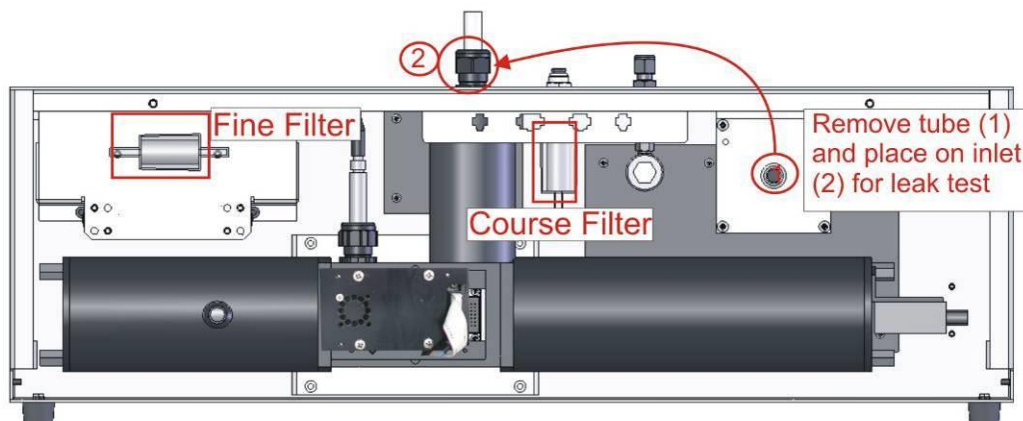

Figure 41 – Aurora with filters highlighted and leak test set-up shown
3. Disconnect the external sample tubing from main sample inlet (2).
4. Remove the black tubing from exhaust fan (1) and place it on main sample inlet (2) as shown in Figure 41 – Aurora with filters highlighted and leak test set-up shown.